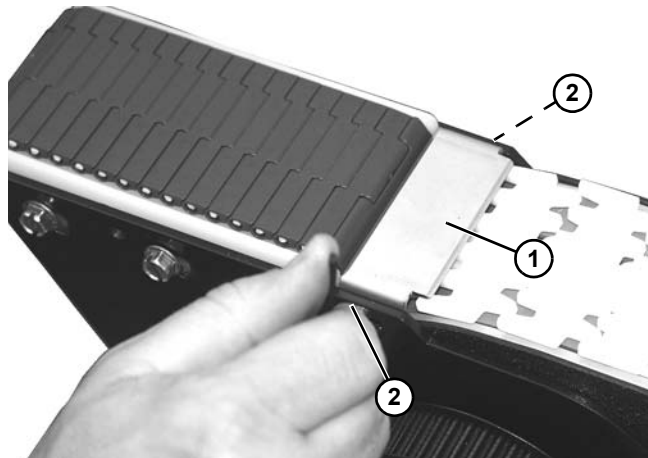

Figure 175
8. Install pinch guard (**Figure 175, item 1**) with two socket head screws (**Figure 175, item 2**).